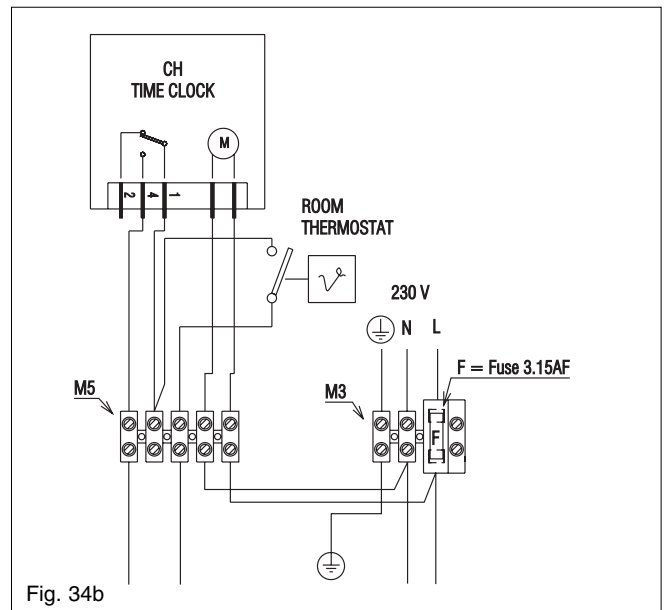

Fig. 34b
- programmable room thermostats (fig. 34b)